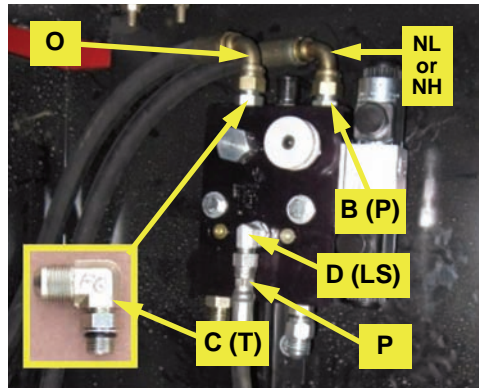
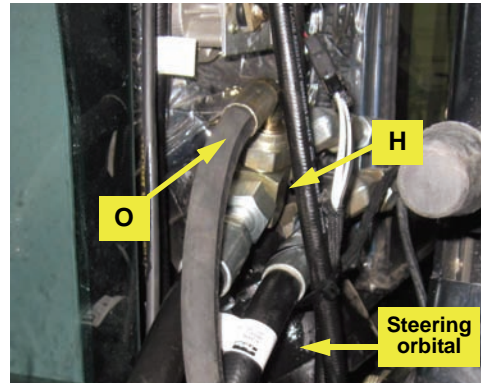
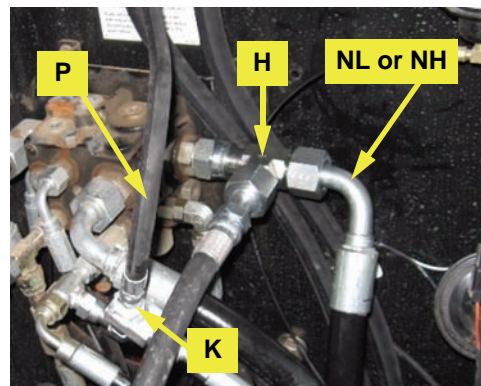

Figure 5a: Installed pressure, tank, and load sense hoses at steering block
Figure 5b: Installed tank hose at steering orbital
Figure 5c: Installed pressure and load sense hoses at hydraulic divider valve
a. Install the pressure hose **NL** (or **NH**) between the fitting **B** in the **P** port of the hydraulic steering block (Figure 5a) and the run-tee **H** installed on the hydraulic divider valve (Figure 5c).
b. Install the tank hose **O** between the fitting **C** in the **T** port of the hydraulic steering block (Figure 5a) and the run-tee **H** installed in the steering orbital (Figure 5b).
c. Install the load sense hose **P** between the fitting **D** in the **LS** port on the hydraulic steering block (Figure 5a) and **K** on the load sense shuttle (Figure 5c).